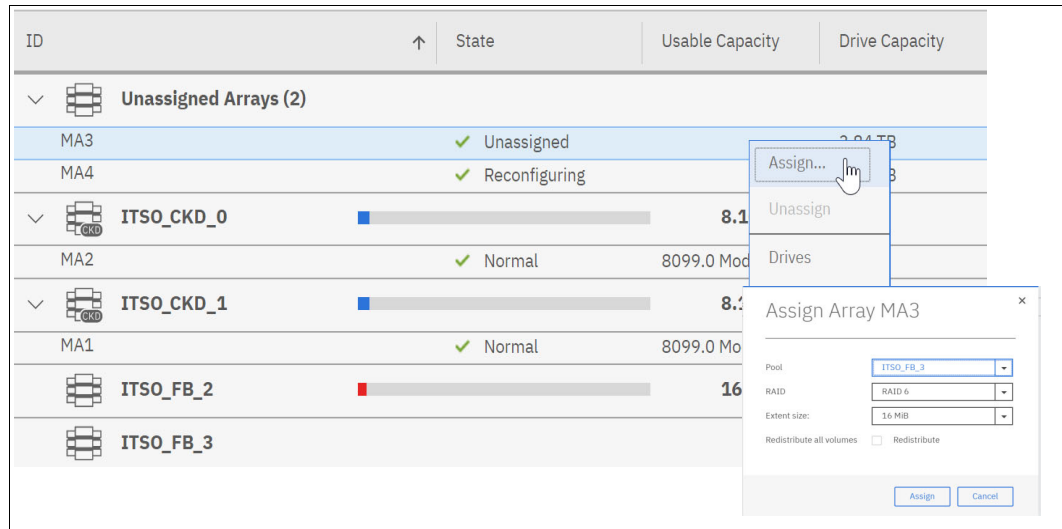

Figure 9-42 Manually assigning an array to an existing pool
- Select an array and right-click **Assign** or **Reassign**, as shown in Figure 9-42 on page 258. This action opens the Assign Array window.